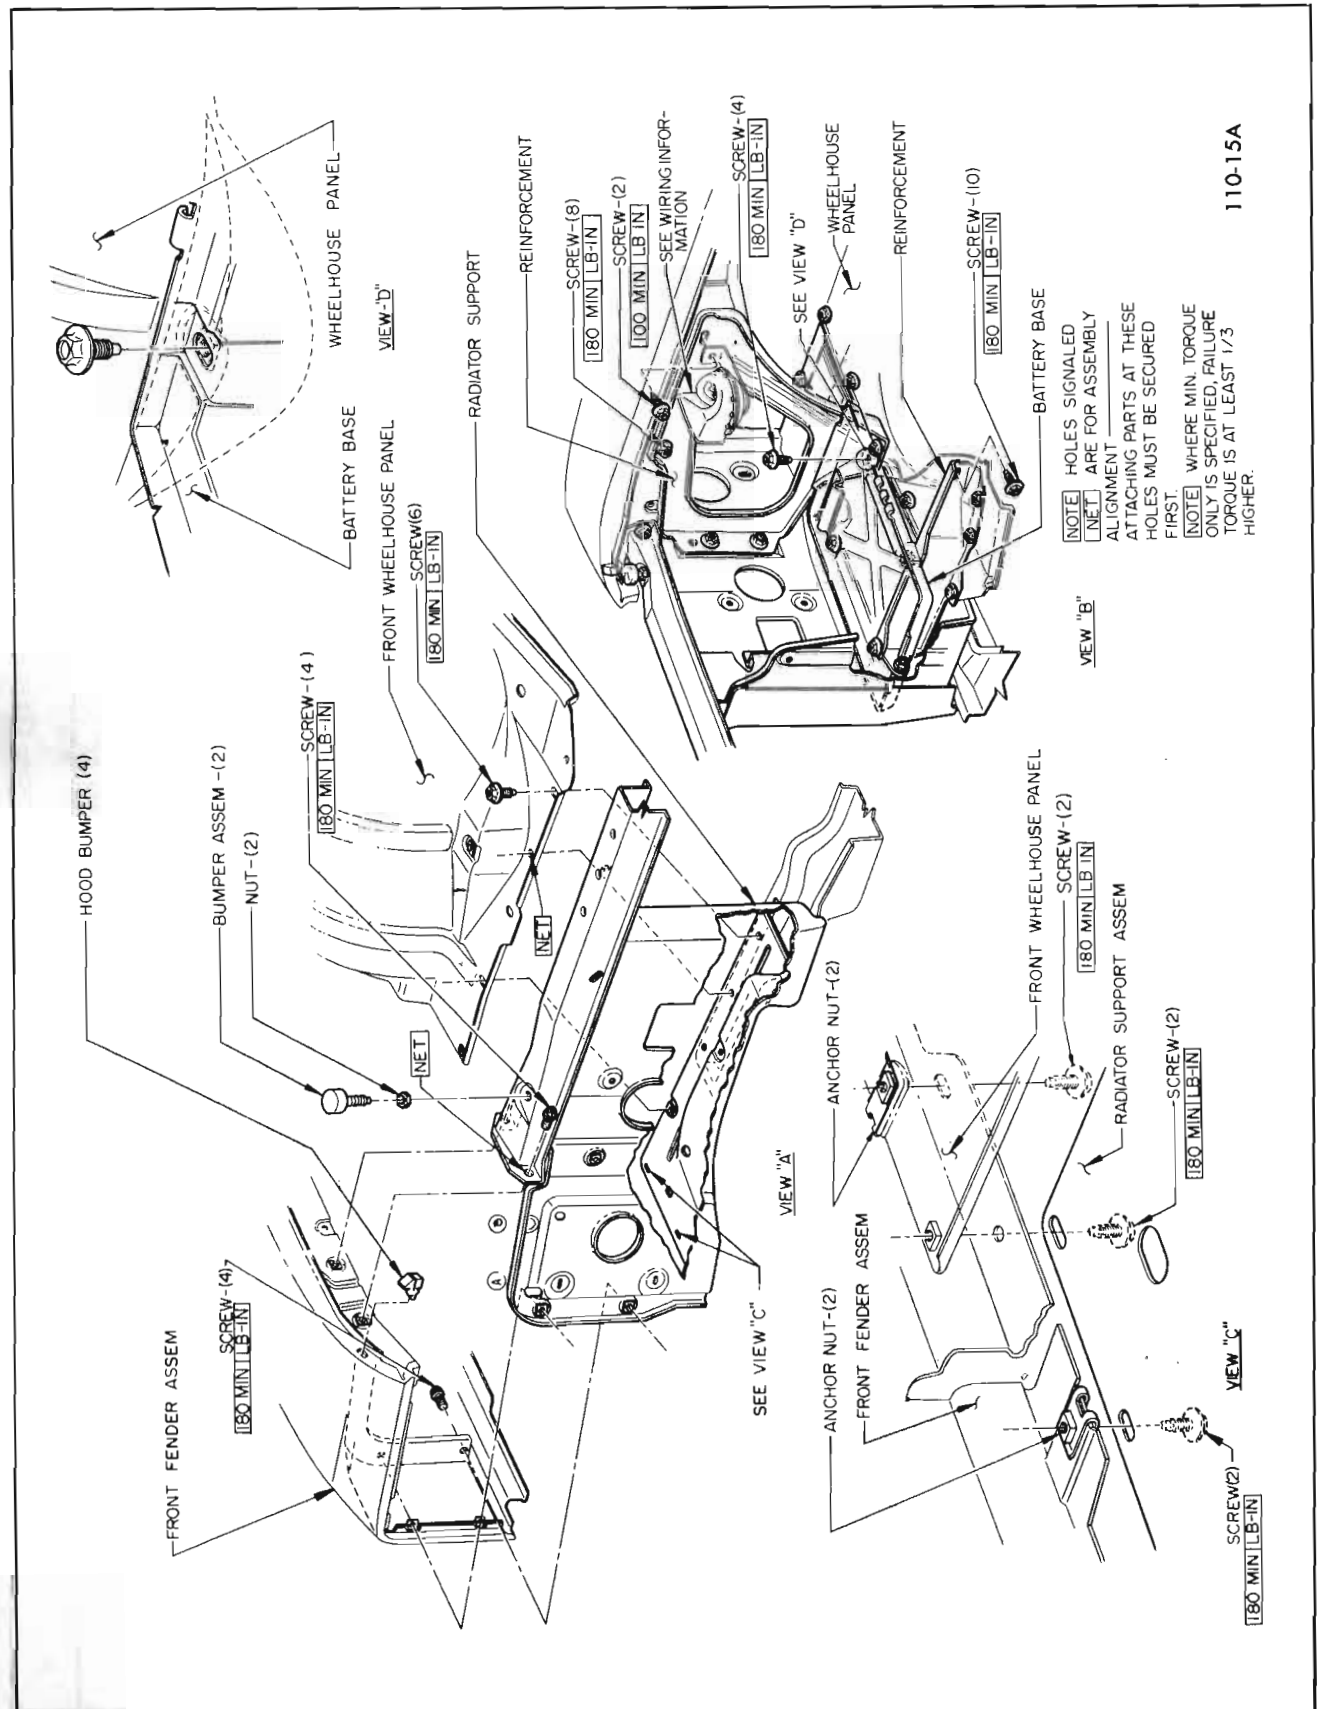

Figure 110-15 45-46-48000 Fender and Skirt, Battery Base
3. Remove four bolts securing battery base to support and fender skirt. Lift out battery base. See Figure 110-15 (View B).
6. Remove three bolts securing outer end of radiator support to skirt and fender. See Figure 110-15 (Views A-B-C).
16. Remove two bolts securing fender to upper tie bar. See Figure 110-15 (View A).